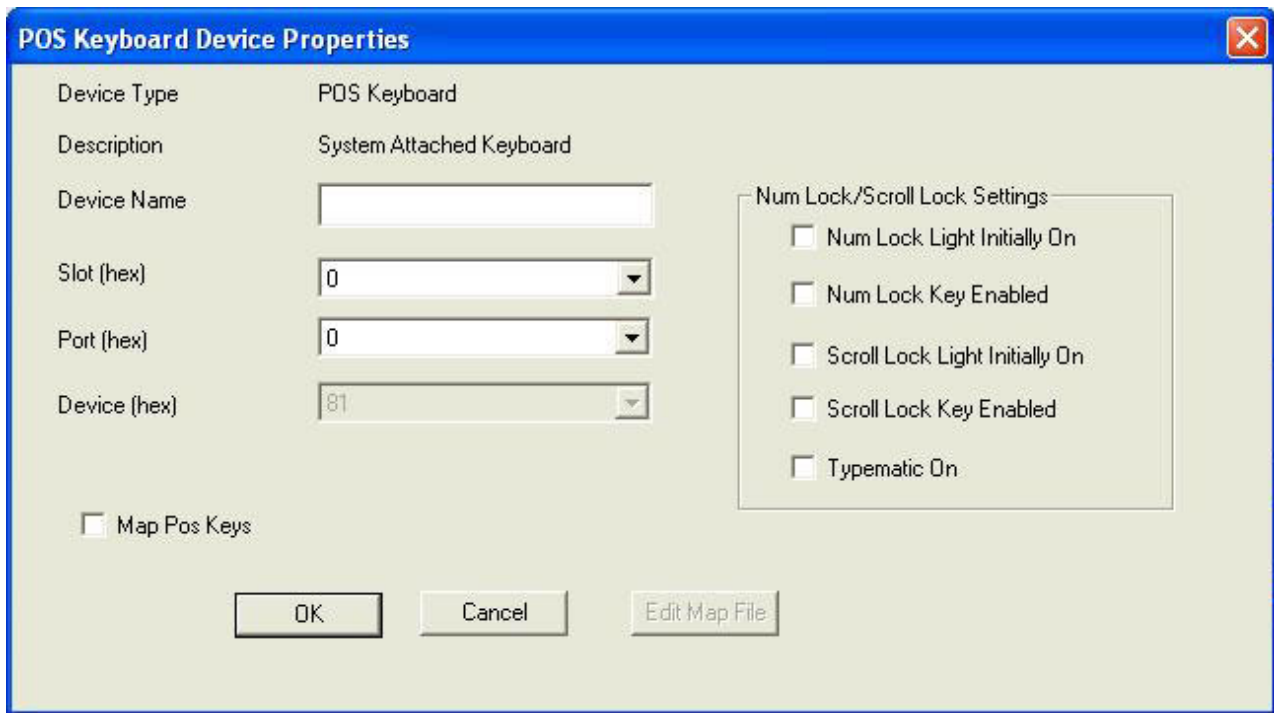

Figure 10. Keyboard properties dialog
1. Select a POS Keyboard entry and click **Configure**. The keyboard configuration dialog is displayed (see Figure 10 on page 41).